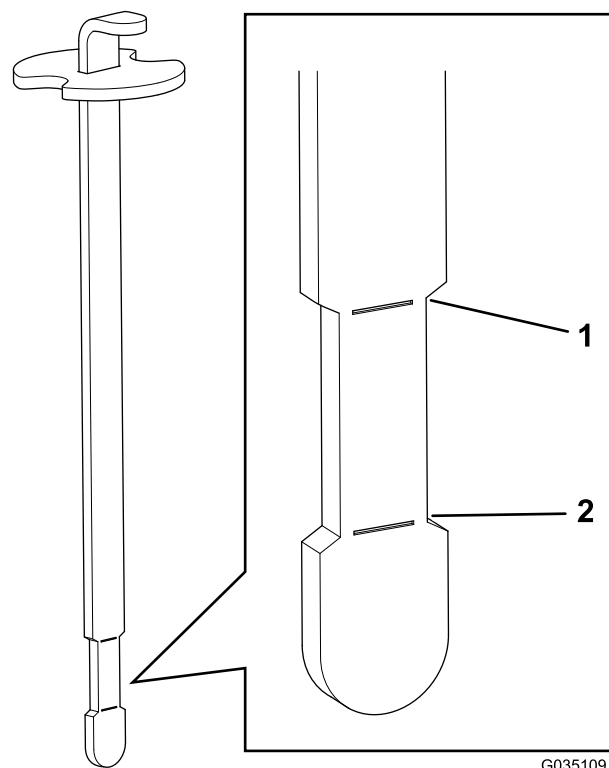

Figure 44
6. Insert the dipstick into the filler neck; then remove it and check the level of the fluid (Figure 44).